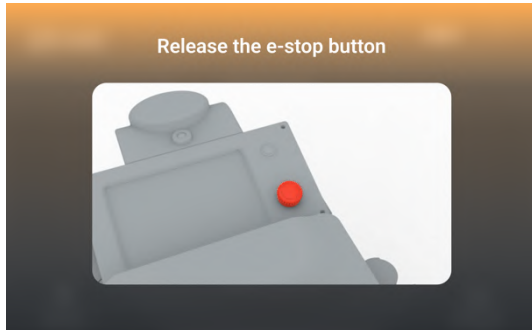

FIGURE 9-6
1. When the e-stop button is pressed, a yellow overlay will appear on the touchscreen (**Fig. 9-6**).